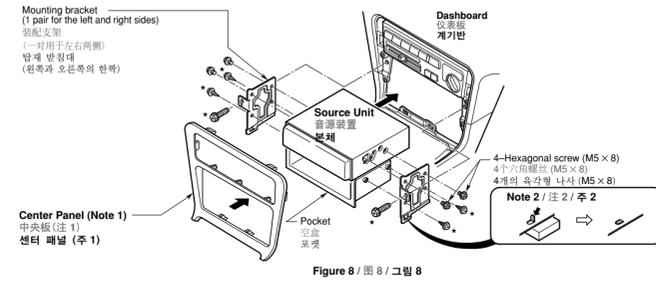

Figure 8 / 图 8 / 그림 8
This unit is designed for fixed installation in the dashboard. If the vehicle is equipped with a factory-installed radio, install the source unit with the parts and screws marked (\*). (Figure 8)
1. Secure the mounting brackets to the chassis as shown in Figure 8. When the source unit is installed without the universal mounting bracket, holes exist; modification, such as drilling new holes, of the mounting brackets may be required for other models.
1. 如图8所示, 将装配支架固定在底盘上。在不使用通用装配支架的情况下安装主机时, 有现成的安装用孔, 其它车型可能需要改造装配支架, 如钻出新孔等。